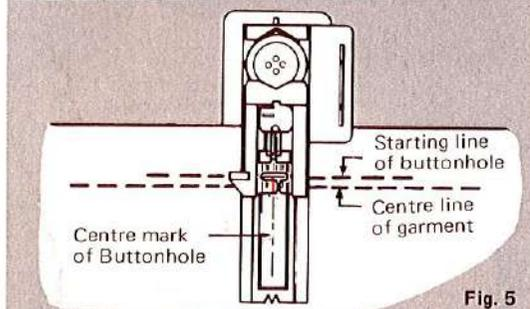

Fig. 5
6. Place garment between buttonhole foot and underplate; align buttonhole starting line on the fabric with red horizontal guideline on the foot. Align centre marking of buttonhole with the vertical guideline on the foot. (See Fig. 5)
4. Start machine and let it complete step 1 (first leg) of the buttonhole cycle. Stop machine just before guideline on buttonhole foot reaches end of buttonhole guideline on garment. (See Fig. 5)